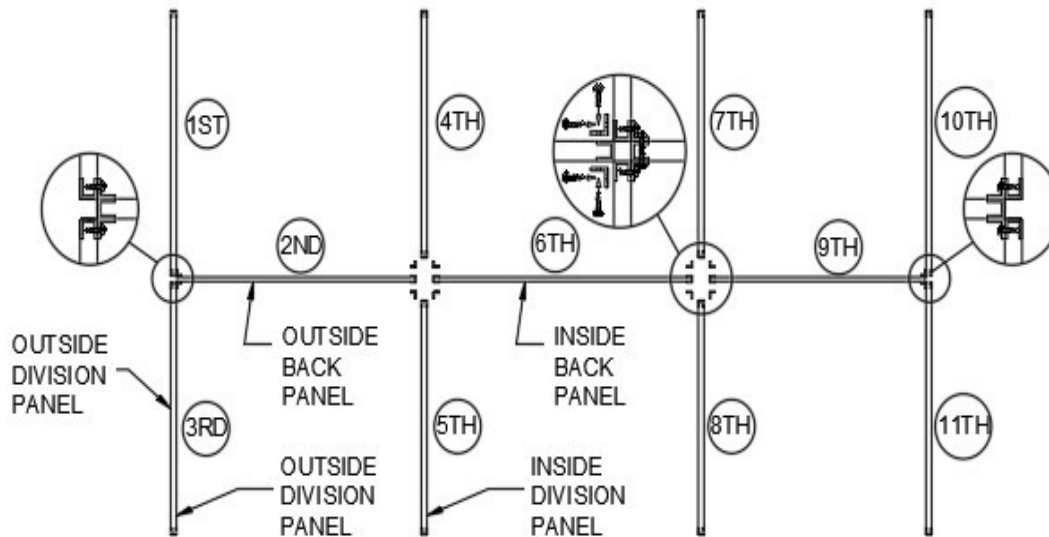
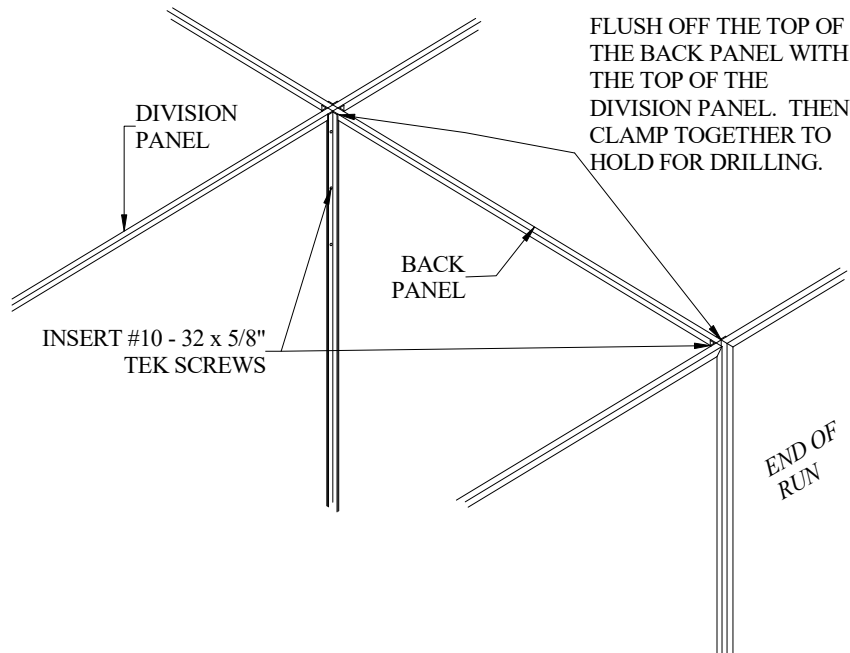

Figure 7A
Figure 8
6. Install supplied full-length Aluminum Panel Attachment Angle flush with top and back edges of Side Panel. Using the pre-punched holes, install the #10-32 x 5/8" TEK screws provided, apply a screw in every hole. See Figure 7A-B. **These may be preinstalled from the factory in certain cases.**
7. Starting from the point you selected in step C-1 place the first "outside division panel" on the corresponding "Sanislope T". See Figure 7A for the sequence in which to assemble the panels. Orient the first specified "back panel" against the division panel as shown in the exploded view of Figure 7A. **Note:** If your back panels have "Kennel Doors", for appearance sake you may want to locate them all on the same side of the run.
8. With the tops of the back and division panels aligned and the mating edges of the panels pulled tightly together, as shown in Figure 8, attach the Back Panel to the Division Panel. Connect using the pre-punched holes to install the #10-32 x 5/8" TEK screws provided. Apply a screw in every hole.
9. Repeat steps C-1 through C-2 to assemble the next division panel to the same back panel in the series opposite of the one just assembled as shown in Figure 7A.
Align the next division panel (4th on Figure 7A) as shown so that the edge of the flange on the division panel lines up with the inside edge of the aluminum frame of the back panel just assembled. With the tops of the two panels aligned and the mating edges of the panels pulled tightly together, as shown in Figure 8, and using the pre-punched holes in the side flange of the back panel as a template, drill an 11/64" hole into the division panel through all holes in the flange. Using the #10-32 x 5/8" TEK screws provided, apply a screw in every hole drilled as you go.
- Repeat steps D-1 through D-3 for all remaining division panels following the same sequence used to assemble the panels as shown in Figure 7A. Continue the leveling process for all runs and or banks of runs.